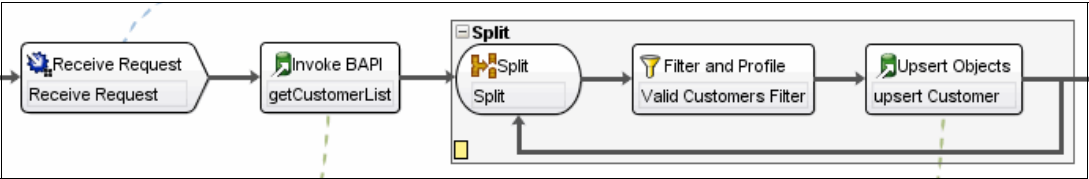

Figure 10-81 The orchestration modified for updating chunks
The idea here is to use APIs that allow the management of recurring elements. The orchestration is simplified, as shown in Figure 10-81.
- ▶ The orchestration, as shown in Figure 10-81 on page 406, is not complete because it does not contain any kind of error handling.